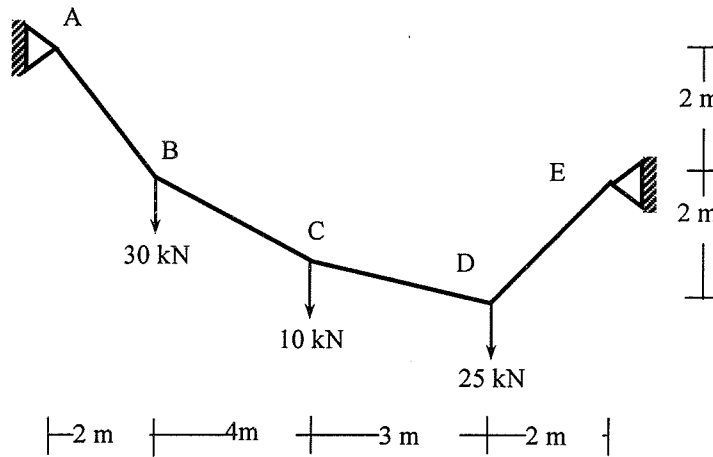

Fig.5
5. Analyze the cable as shown in **Fig. 5** to determine the unstress cable length and tension in each cable segment. Also, calculate the sag at each applied load. [10]